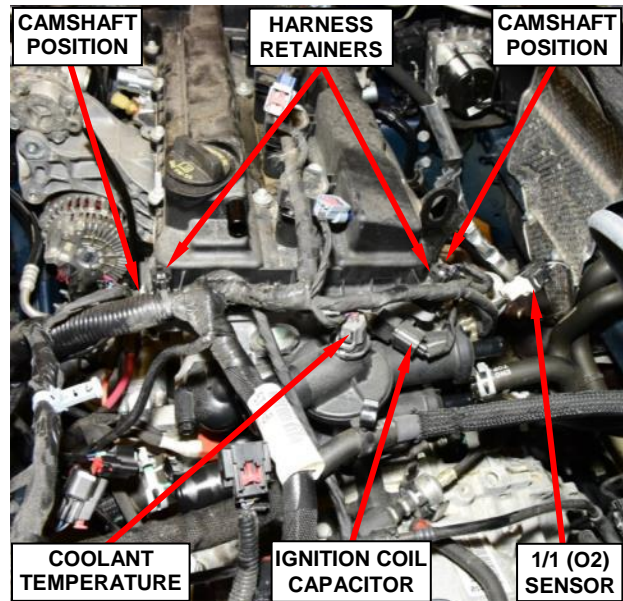

Figure 22 – Engine Electrical Harness
74. Disconnect the 1/1 upstream Oxygen (O2) sensor electrical connector (Figure 22).
75. Disconnect the engine wire harness from both camshaft position sensors (Figure 22).
76. Disconnect the engine wire harness from the engine coolant temperature sensor (Figure 22).
77. Disconnect the engine wire harness from the ignition coil capacitor (Figure 22).
78. Release the two engine wire harness retainers from the valve cover studs (Figure 22).